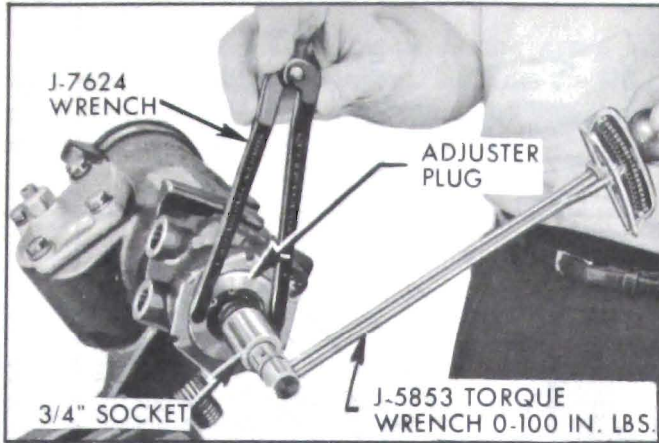

Figure 8-33—Adjusting Thrust Bearing Preload
3. Loosen adjuster plug lock nut and back off adjuster plug approximately 1/8 turn with adjustable spanner wrench J-7624. Attach torque wrench J-5853 with 3/4 inch 12 point socket to stub shaft and turn shaft to approximately 1/2 turn from either extreme. Slowly rotate wrench in an arc approximately 60° (1/6 turn) in both directions several times to measure valve drag and record highest reading. See Figure 8-33. Then tighten adjuster plug until thrust bearing preload is 1 to 3 inch pounds in excess of drag measured with adjuster plug backed out. Total of thrust bearing preload and valve drag should not exceed 11 inch pounds.